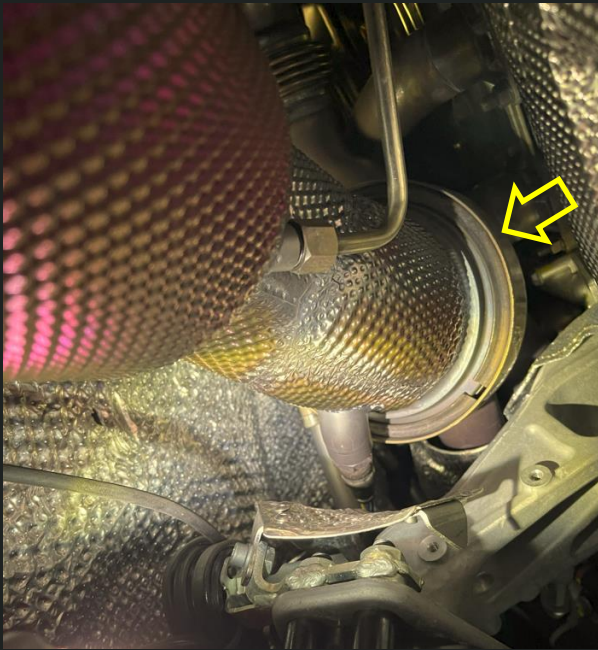
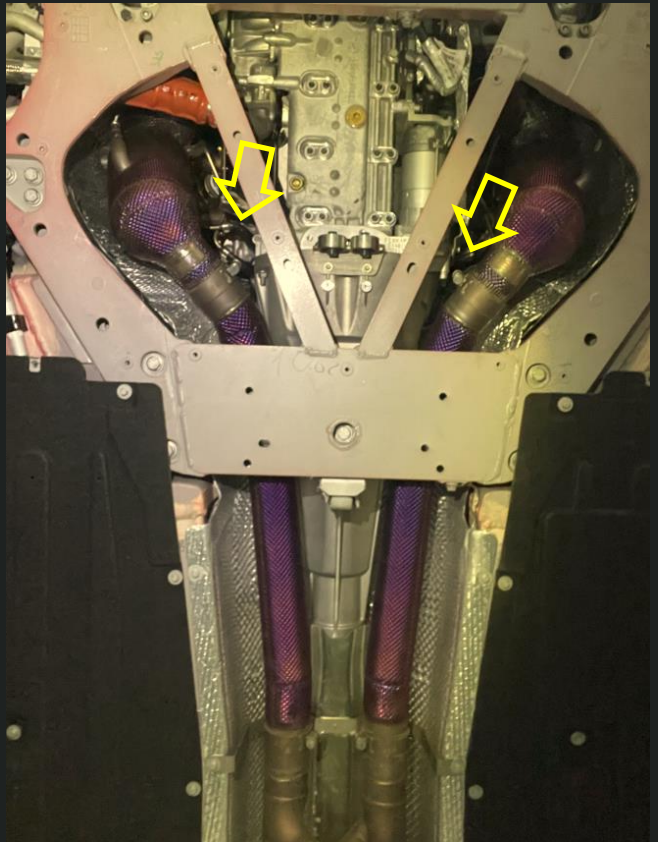

Figure 44
Figure 45
14. Adjust the connection between the catalytic pipe and the mid pipe. Secure the catalytic pipe front flange clamp (Figure 44). Then, tighten the clamps at the catalytic front-to-rear pipe junction and the mounting bracket (Figure 45).